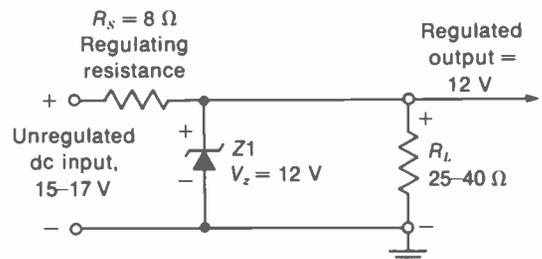

FIGURE 12-26 ZENER-DIODE VOLTAGE REGULATOR CIRCUIT. NOTE 12 V ACROSS Z1 IS REVERSE BIAS.
**Zener-diode regulator.** See Fig. 12-26. Note the schematic symbol for the zener diode Z1. Reverse bias is used with positive voltage at the cathode. This zener diode is rated for 12-V breakdown voltage, with a maximum diode current of 150 mA and 10-W power dissipation. Smaller units have a power rating of 400 mW or 1 W. The series regulating resistance  $R_s$  has the function of providing a voltage drop that varies with the load current. However, there must be at least 12 V across the diode to provide current through Z1 so that it can operate in its breakdown mode.